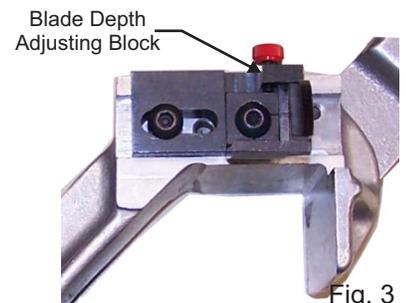

Fig. 3
7. If necessary, re-adjust the blade depth. Use the depth adjusting block (Fig.3) to aid in small depth changes. Make 1/4 turn changes to arrive at an optimal blade depth. The tool is now adjusted for final use.